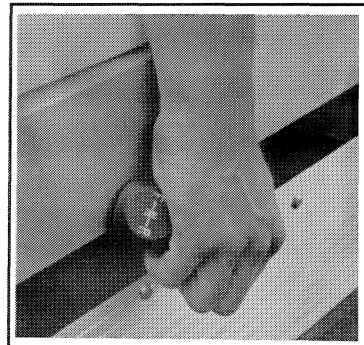

Figure 3
Forward - Reverse Control - The forward reverse shift lever is located below and to the right of the driver's knee on the seat support panel (See Figure 3). The lever has three (3) distinct positions: F (forward), N (neutral), and R (reverse). Rotate the lever toward the driver (F) to run vehicle in forward and toward the passenger (R) to run vehicle in reverse. When the lever is in the straight up or neutral position, the vehicle will not run, and the engine will stop if shifted to this position while running. The electric vehicle operates at half speed in reverse.